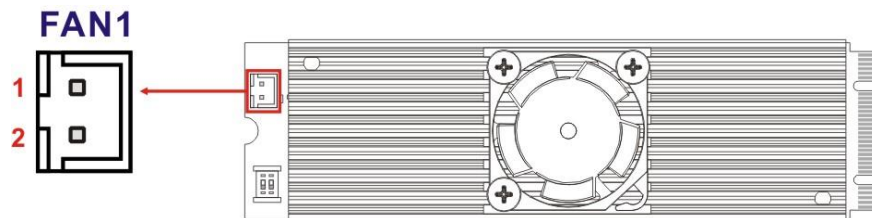

Figure 3-2: Fan Connector Location
**CN Location:** See Figure 3-2